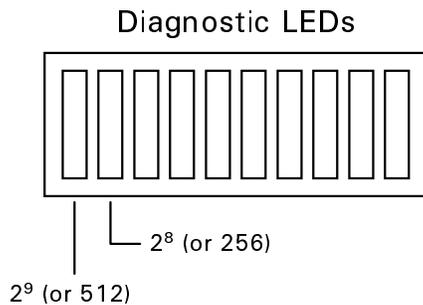

Figure 2. Binary-coded LED Display
- binary pattern (left-most LED is 2^9 [or 512], second-most LED is 2^8 [or 256], and so on; see Figure 2)